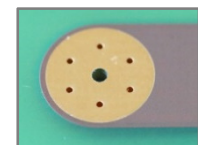

Figure 4
- An equally popular method of strengthening SMD pads is to place the via directly in the pad. It should be kept in mind that the fluid solder can flow downwards through the vias and there may not be sufficient solder available for the solder joint (Fig. 4).